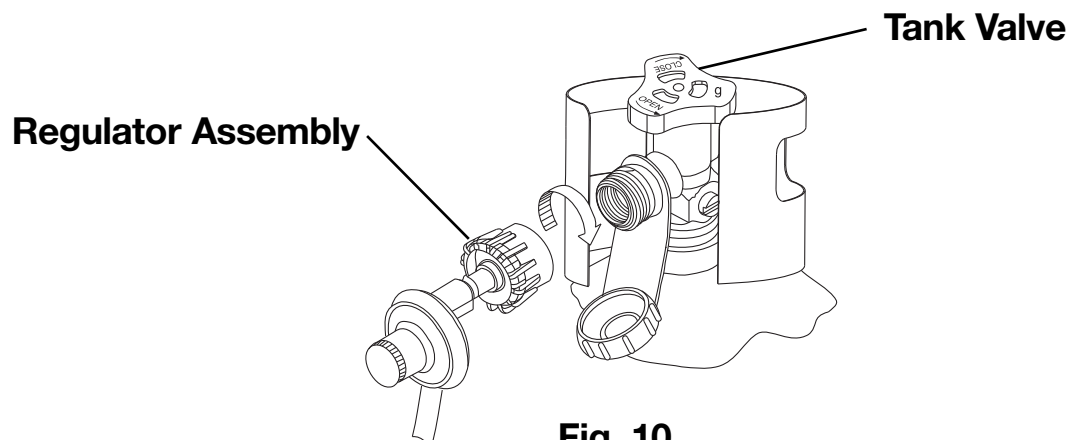

Fig. 10
6. When connecting regulator assembly to the valve, hand-tighten nut clockwise to a positive stop as shown in **Fig. 10**. Do not use a wrench to tighten. Use of a wrench may damage the quick-coupling nut and result in a hazardous condition.